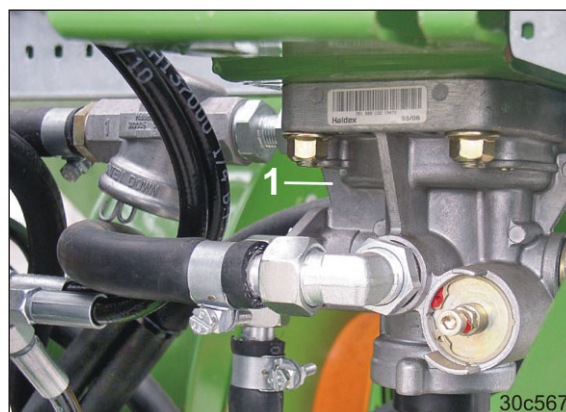

Fig. 132
- a trailer brake valve (Fig. 132/1).